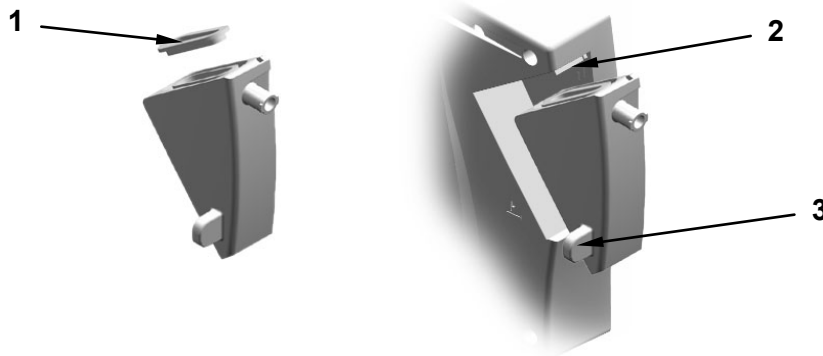

Figure 5. Replacing the Moisture Trap/Filter
1. Place the filter in the moisture trap as shown in figure 5 (1).
2. Slide the moisture trap into position (figure 5, 2) using the guide marks on the back of the monitor.
3. Press the moisture trap into position using the tab (figure 5, 3).